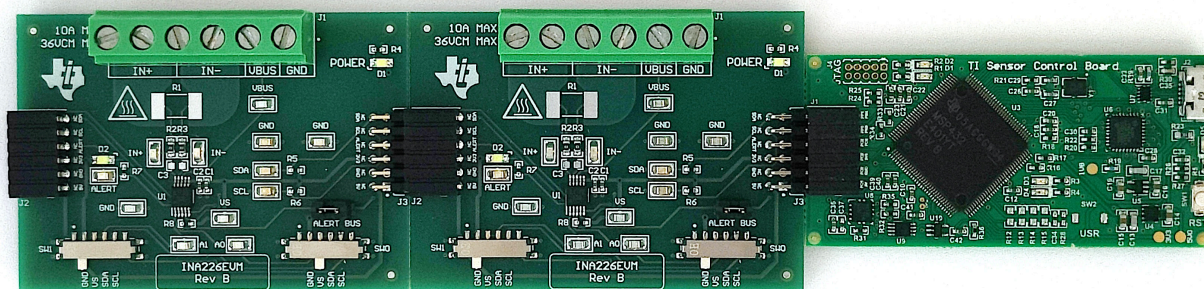

Figure 4-2. Multiple EVMs Connected to SCB Controller
- a. Refer to Figure 4-2 when connecting multiple EVMs of the same type together.
If using multiple EVMs, connect them as shown in Figure 4-2. Make sure to use a different I2C address for each device. The GUI only supports up to 4 EVMs total.